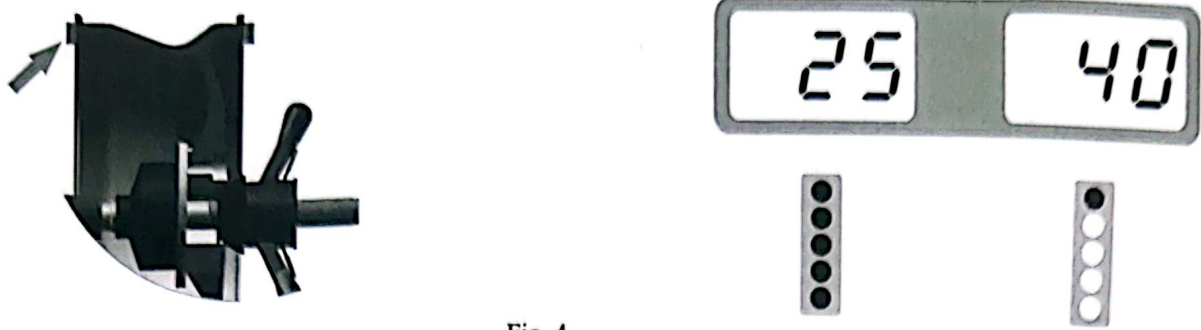

Fig. 4
4.1.7. Anticlockwise moving wheel slowly, the displays with left LED's lit up full indicate the correct angular position where to mount the counterweights (12 o'clock position) inside, as Fig.4, clip the counterweight.